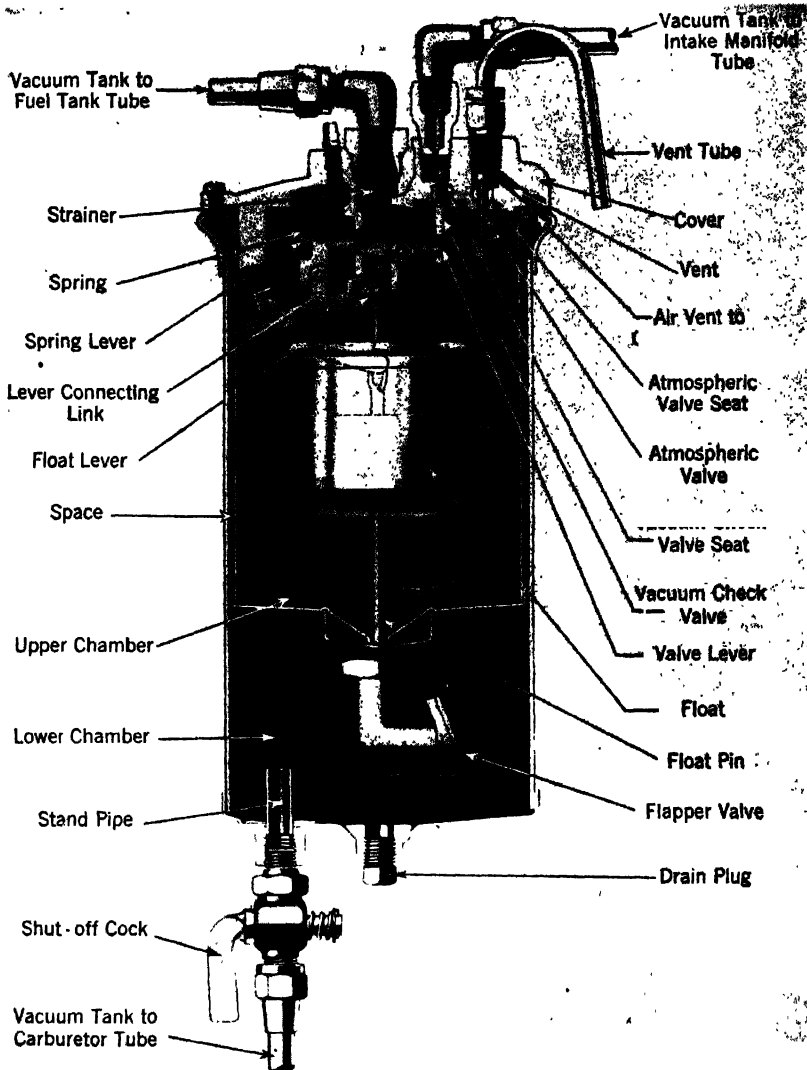

FIG. 3a.—Stewart Vacuum Tank.
The Stewart Vacuum Gasoline Tank (Fig. 3a) is described on page 486 of Part Two.
When installing a vacuum tank, fasten it firmly on the engine or dash well away from the exhaust manifold so as to avoid all danger of fire from gasoline leaking on the exhaust manifold. It is necessary to keep the bottom of the tank above the level of the carburetor to insure a flow of gas when climbing hills, since gasoline is fed by gravity from the lower chamber of the vacuum tank to the carburetor. Make measurements of the suction coupling on the top of the tank (Fig. 3a), for the size of a coupling and of the tubing needed to connect the suction line to the intake manifold. Remove the carburetor, drill a hole in the manifold, and tap to suit the fitting to be used. Replace the carburetor, cut the tubing to a correct length, attach the couplings to the tubing, and connect up the tank to the manifold.
9. What is the need for the drain plug (Fig. 3a)?
11. What is the use of the standpipe in Fig. 3a?
C. The manifold connection (Fig. 3a) may be loose, allowing air to be drawn into the manifold.